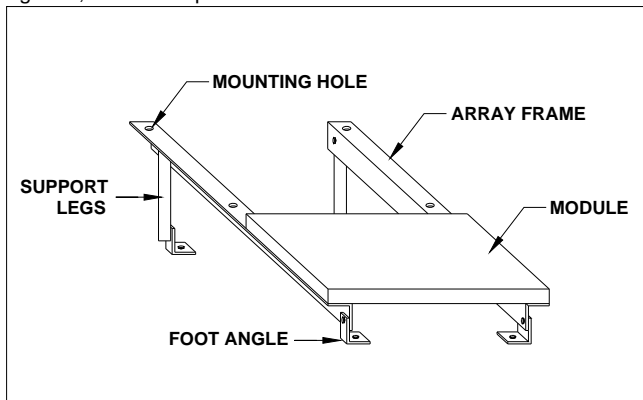

Figure 2. Basic Rack or Stand-off Mounting Structure
The minimum spacing of 2" (50mm) is required between the PV module and the mounting surface around the perimeter of PV module. The frame of each PV module has 0.35" (9mm) diameter mounting holes (Refer to Module Mounting Specifications). These are used for fixing PV modules to the supporting structure. PV module frames must be attached to a support structure using M8 (5/16") stainless steel screw in a minimum of four (4) places symmetrical on PV module. The stainless steel screw used for fixing the module frame should secure with an adequate torque. (usually, 19 N-m (14 ft-lb).) An example of a ground mounted structure is shown in Figure 2. The four holes close to the corners of the module are most often used for installation. Refer to the Mounting Specifications for the position of these holes. Clearance between PV module frame and the mounting surface may be required to prevent the junction box from touching the surface, and to circulate cooling air around the back of PV module. Spacing between PV modules must be a minimum of 1/8" (3.2 mm) to allow for thermal expansion. If the modules are to be installed on the roof or wall of a building, the stand-off method or the rack method is recommended.